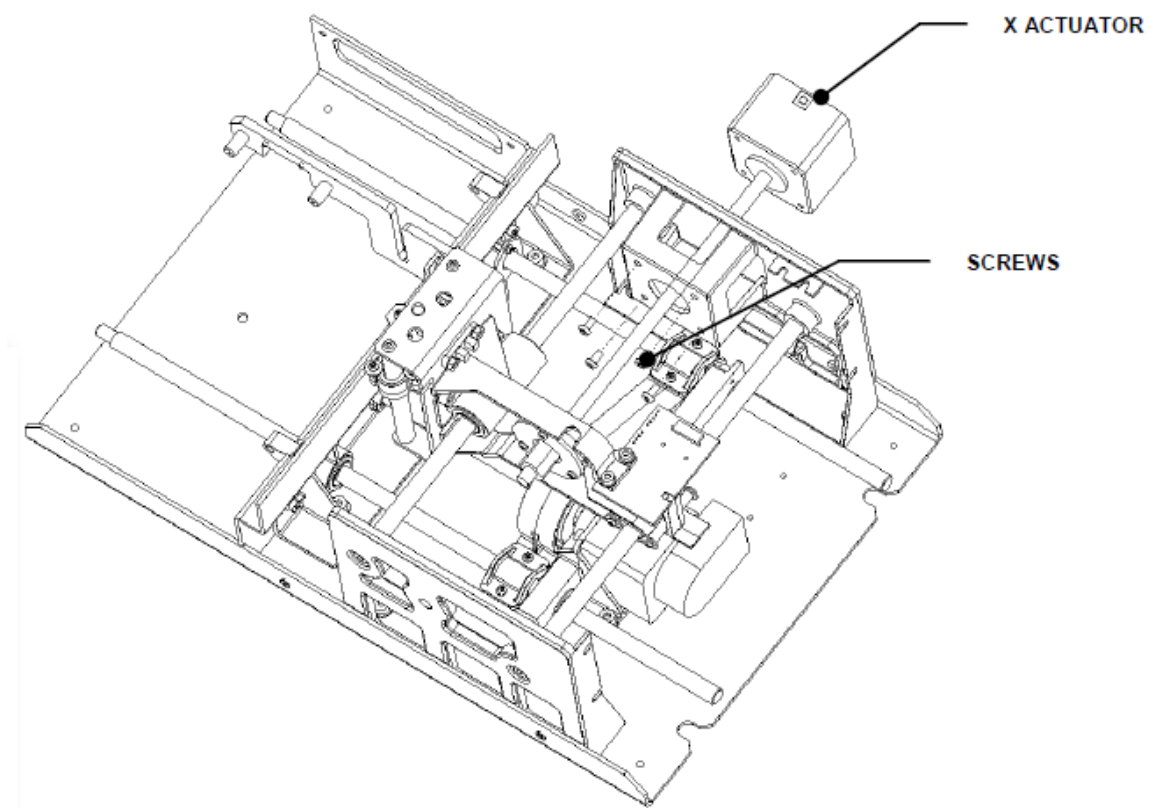

Figure AA-10: Removing the X Actuator
2. Remove the Washer X Actuator and lead screw by removing the four screws that attach it to the left hand side plate as shown in figure AA-10.